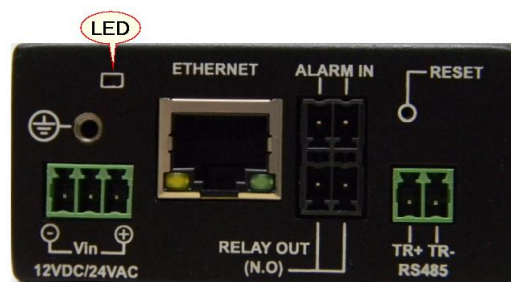

Figure 3: trk-101-P Power Connection Panel
1. Loosen the screw of the grounding terminal located on the power connection panel of the unit. See Figure 3: trk-101-P Power Connection Panel.
1. Connect a PC/laptop directly to the unit using a network cable connected to the Ethernet port located on the front panel of the unit. See Figure 3: trk-101-P Power Connection Panel (page 2).
- a. Connect the network cable to the Ethernet port located on the front panel of the unit. See Figure 3: trk-101-P Power Connection Panel (page 2).